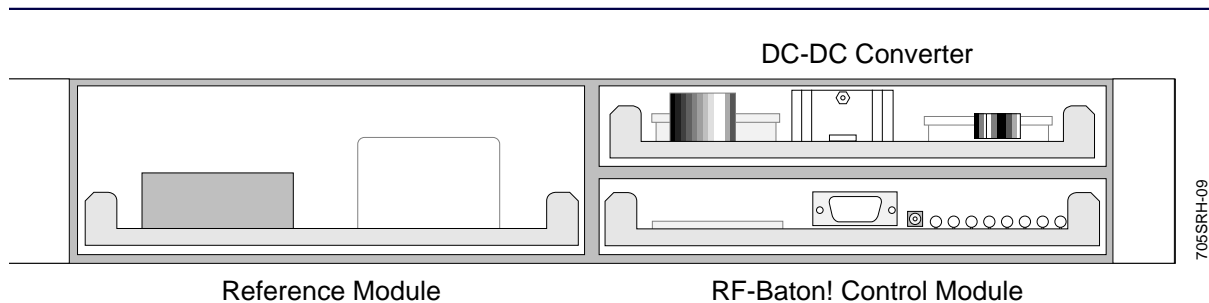
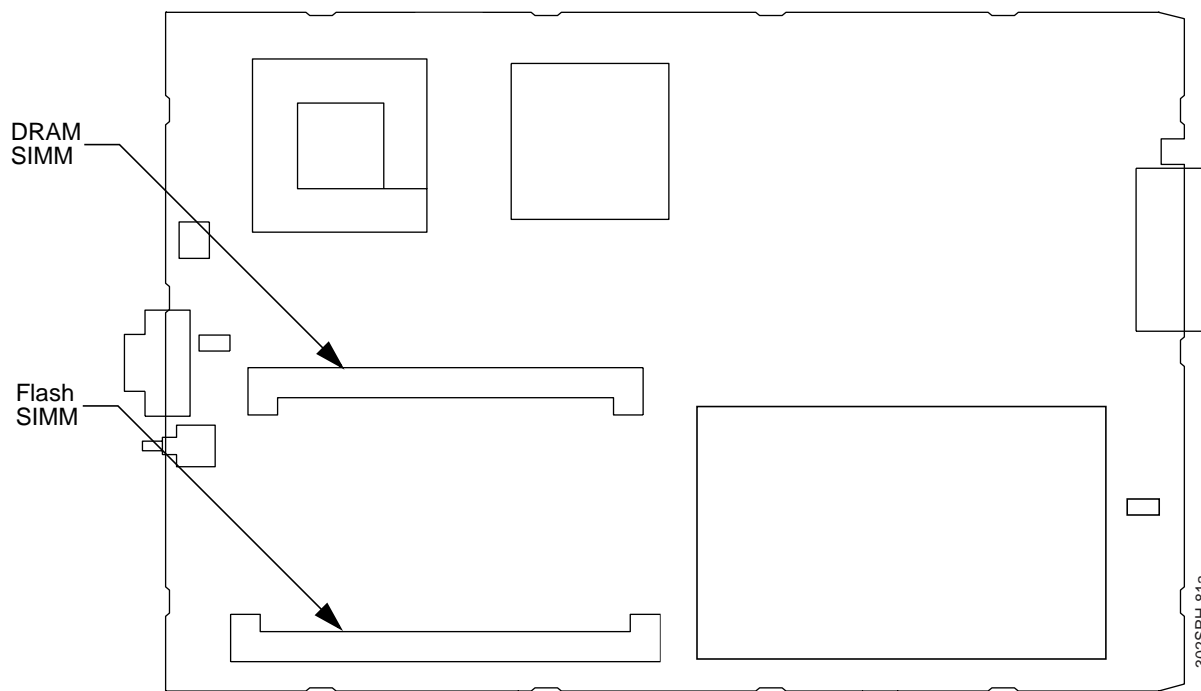

Figure 6-1: RF-B! Transmitter Controller Front Panel (Cover Removed)
Figure 6-2: BCM Component Layout—SIMM Locations
1. Set the RF-B! transmitter controller power switch to OFF (O).
3. Slide the Baton Control Module (BCM) board out to gain access to the SIMM (see Figure 6-1 and Figure 6-2).